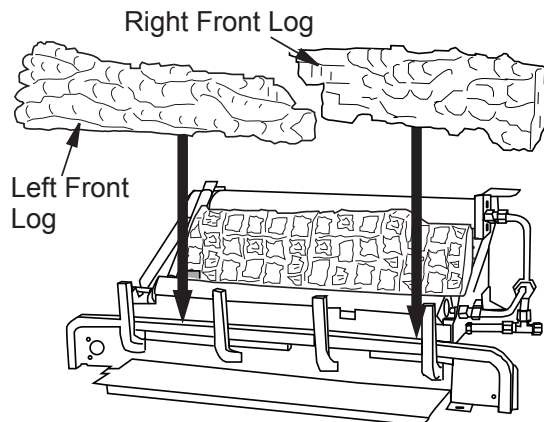

Figure 30 - Installing Left/Right Front Logs
3. Place front left and front right logs as shown in **Figure 30**.